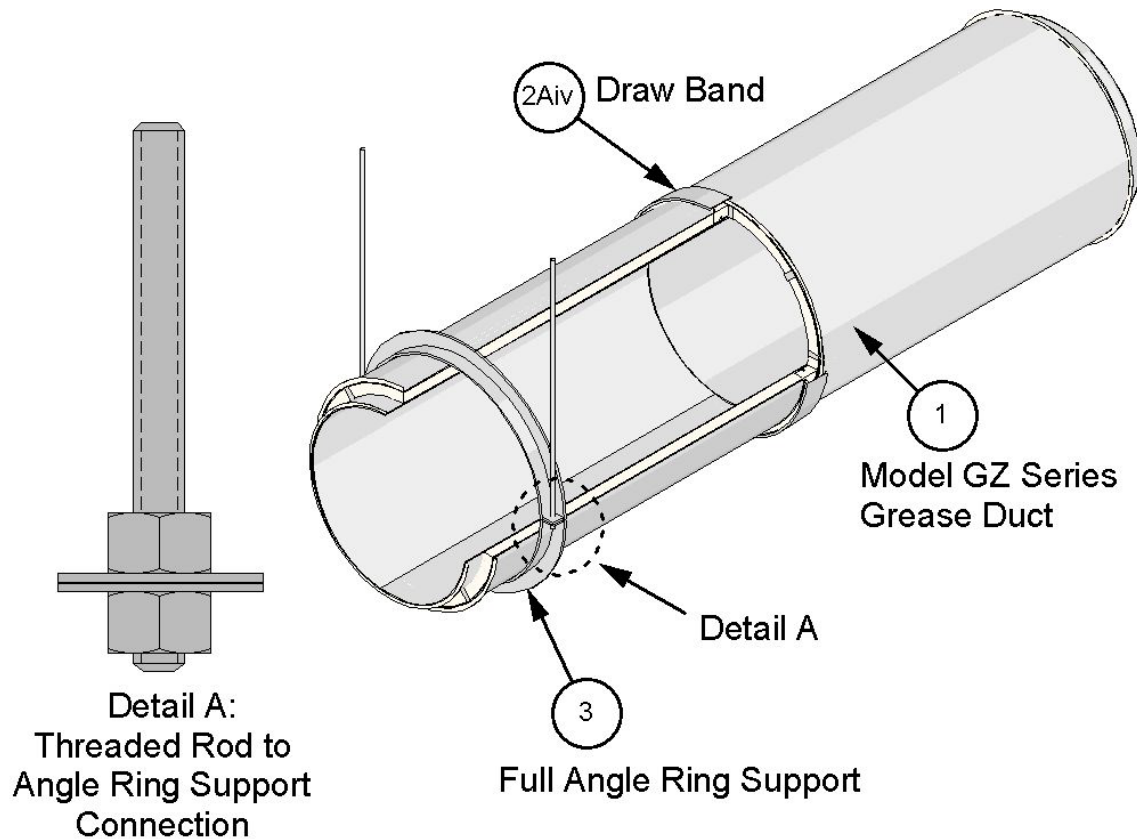

Figure 1. Model GZ Series Grease Duct
PRE-FABRICATED GREASE DUCT (Grease Duct): Reference Figure 1. Install Grease Duct in compliance with the requirements of NFPA 96, the National
- A. Horizontal Supports:** Support the Grease Duct (Item 1) using supplied steel, full-angle ring supports (see Figure 1) (two (2) half-rings required) and min. 1/2 in. diameter, threaded steel rods. Attach the threaded steel rods to the
Floor/Ceiling Assembly (Item 4A) by way of through-holes sized appropriately for the nominal threaded rod diameter and secured on top side with appropriately sized flat washer and double nut. Place one (1) threaded steel rod on each side of the Grease Duct and fasten to the full angle ring support with appropriately sized nuts (see Figure 1, Detail A). Space horizontal supports a max. of 84 in. on center (oc.).